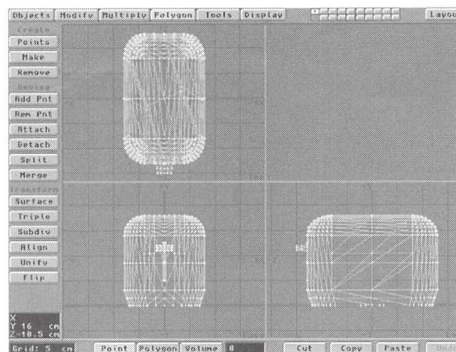

Figure 1: ChromeToaster after polygons are tripled and subdivided.
- Next, be sure to Merge Points (Merge in Tools panel or m:) using Automatic merging selection. If you Subdivided once, as I did, 26 points should have merged, and you should end up with 1,248 polygons (Figure 1).